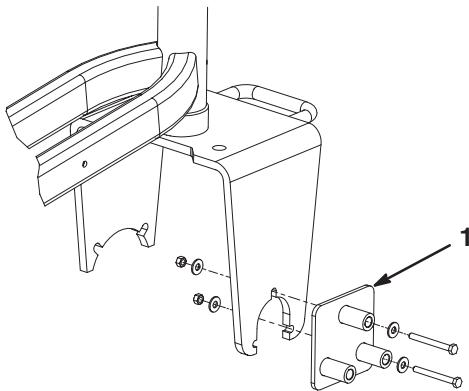

Figure 3
- Mount the drill guide to the left side of the castor fork with (2) 5/16 x 3 in. bolts, (4) 3/8 x 7/8 washers and nuts. Position the components as shown in figure 3.